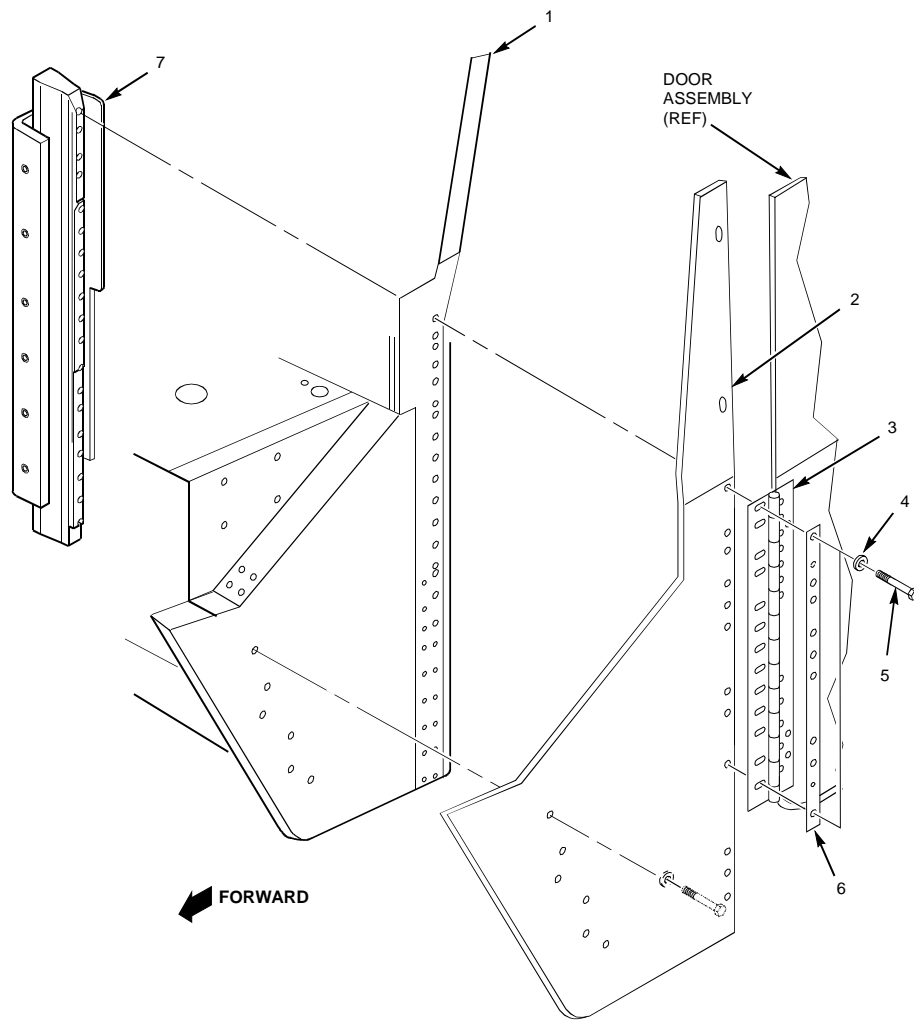

Figure 2-8. Left A-Pillar Reinforcement and A-Pillar Armor Removal (2 and 4 Door)
2. Remove left side A-pillar reinforcement and A-pillar armor (see figure 2-8).
- c. While supporting door assembly, remove nine capscrews (5), washers (4), and cover strip (6) securing A-pillar armor (2) to vehicle left front cowl (1). Remove door assembly.
- d. Remove left pre-assembled A-pillar reinforcement bar and left A-pillar reinforcement channel assembly (7).
- e. Remove A-pillar armor (2).